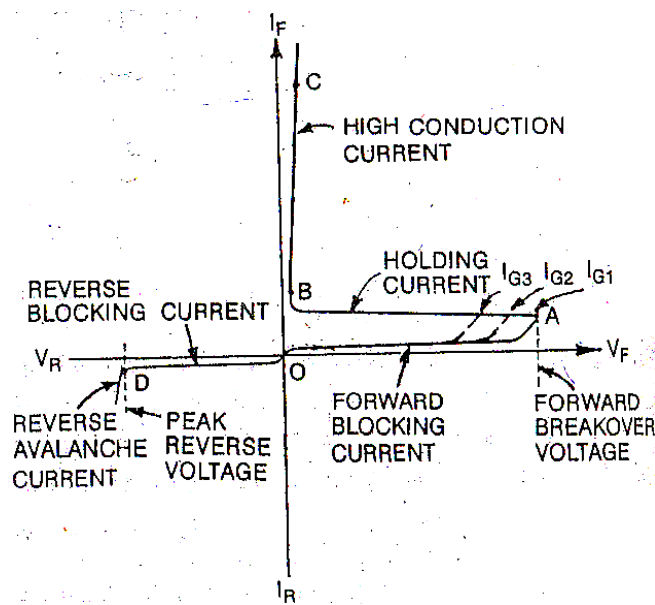

Fig. 65.1
Ans: **V-I Characteristics of an SCR:** The V-I characteristics of an SCR is shown in fig. 65.1
**When gate current is zero:** As power supply voltage is increased from zero (with zero gate current), there is a small leakage current which flows through anode. This is due to leakage of minority carriers through junction  $J_2$ . This small leakage current does not affect the load at all and for all practical purposes, the load is considered to be OFF i.e. SCR is said to be in OFF state. Now, when the power supply voltage, which is equal to voltage drop across anode and cathode of SCR (as there is little voltage drop across load on account of extremely small value of leakage current), reaches the forward break over voltage, SCR at once begins to conduct and the voltage V across thyristor suddenly drops as shown by dotted curve AB as shown in fig.65.1. Full conduction is reached rapidly. Under such conditions most of power supply voltage appears across the load, as drop across thyristor is hardly 1 V as compared to several hundred volts across load. The SCR now acts as truly closed switch, allowing power to flow through the load circuit. It will continue to flow as long as holding current for thyristor is maintained.
**Reverse Characteristics:** When anode is connected to negative and cathode to positive of power supply, the curve between V and I is called reverse characteristic shown in fig. 65.1. In this case, junctions  $J_1$  and  $J_3$  are reverse biased while  $J_2$  is forward biased. It is clear that by increasing the reverse voltage beyond a certain value (point D) will result in the breakdown of the junctions  $J_1$   $J_2$  and SCRs can no longer block the flow of current through it. However, this voltage is very high as compared to the forward voltage.